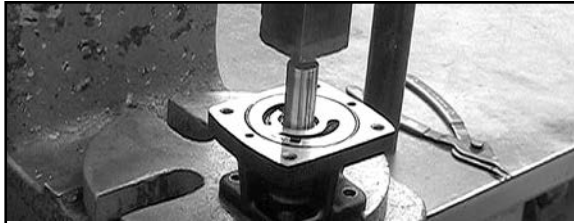

Figure 13
- Place body in position on arbor press. Threaded portion of the Shaft should be inside the fixture. Press out shaft assembly with arbor press (See Figure 13).